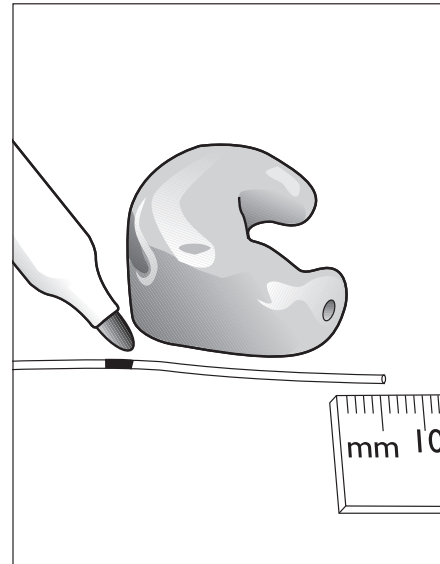

Figure 5.1.2.3A—Marking the probe tube
6. Insert the probe tube (without the earmold or aid) into the client's ear so that the mark is at the location where the bottom of the outer surface of the earmold will be, once the earmold is in place. See Figure 5.1.2.2